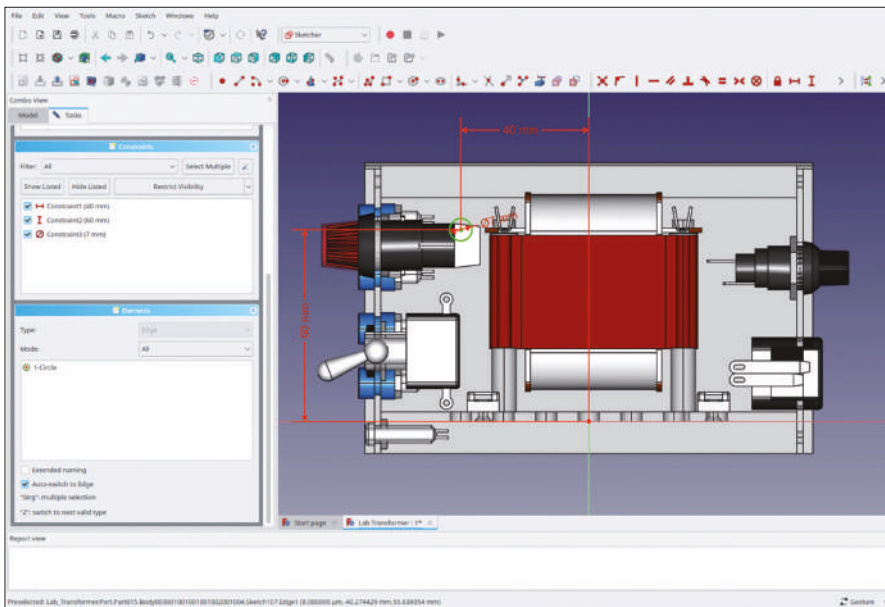

Figure 9-120
24. Draw a circle of 7 mm diameter. Constrain the horizontal distance to the center line to 40 mm. Constrain the vertical distance from the origin to 60 mm (Figure 9-120). Close the sketch.